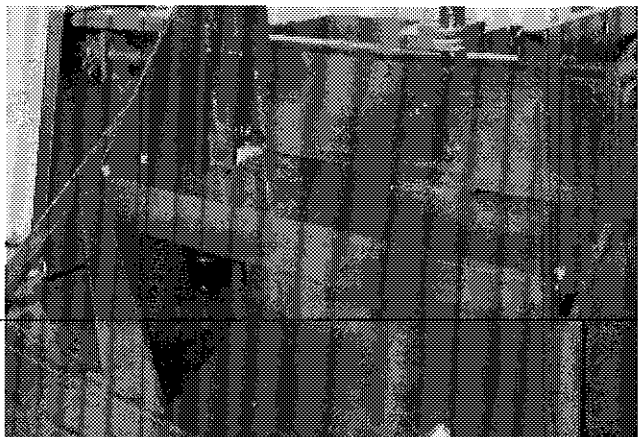

Figure 22
- 1) Tip the Snowblower forward (gear box facing up) and remove the guard (Fig. 22) protecting the ring gear segment. Remove the elbows.
- 6) Install guard (Fig. 22).